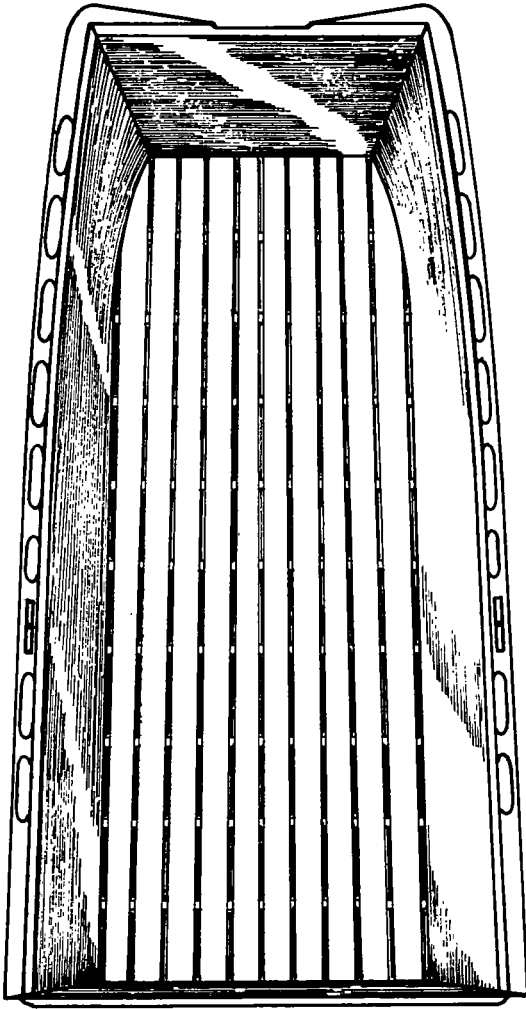

Figure 225. M2 assault boat.
a. Design. The M2 assault boat (fig. 225) is a lightweight craft constructed of plywood and designed to carry the leading elements of the assault